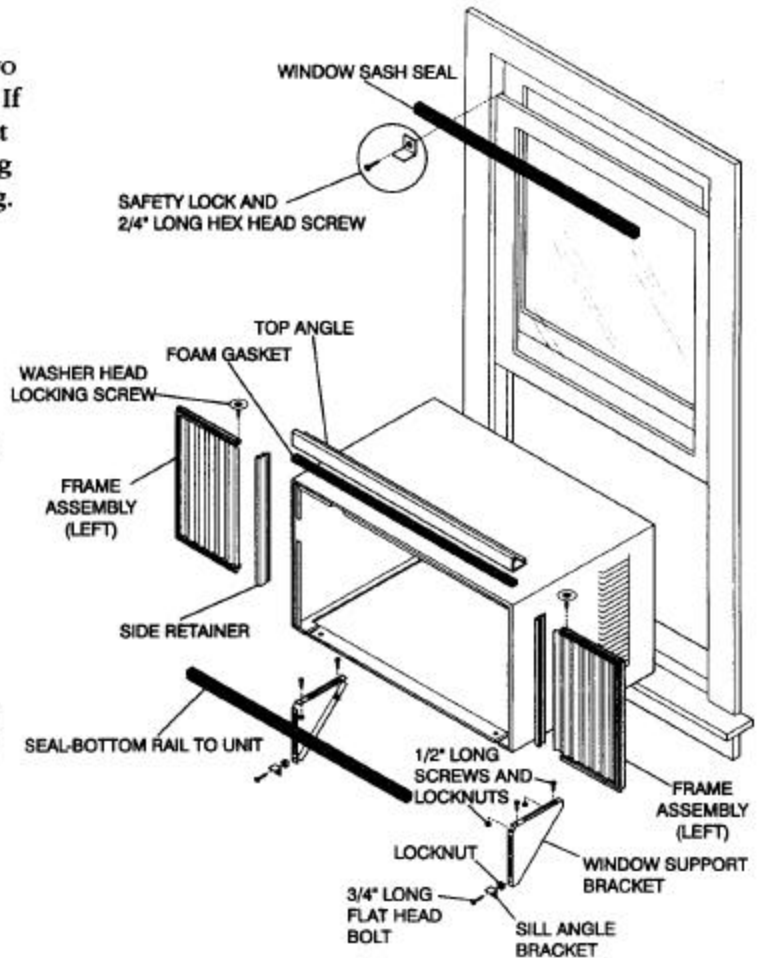

FIG. 1
- 1. Check window opening size** - the mounting parts furnished with this air conditioner are made to install in a wooden sill double-hung window. The standard parts are for a window opening of 31" (711 mm) minimum to 42" (1067 mm) maximum width. Open sash to a minimum of 19" (483 mm). (FIG. 1)